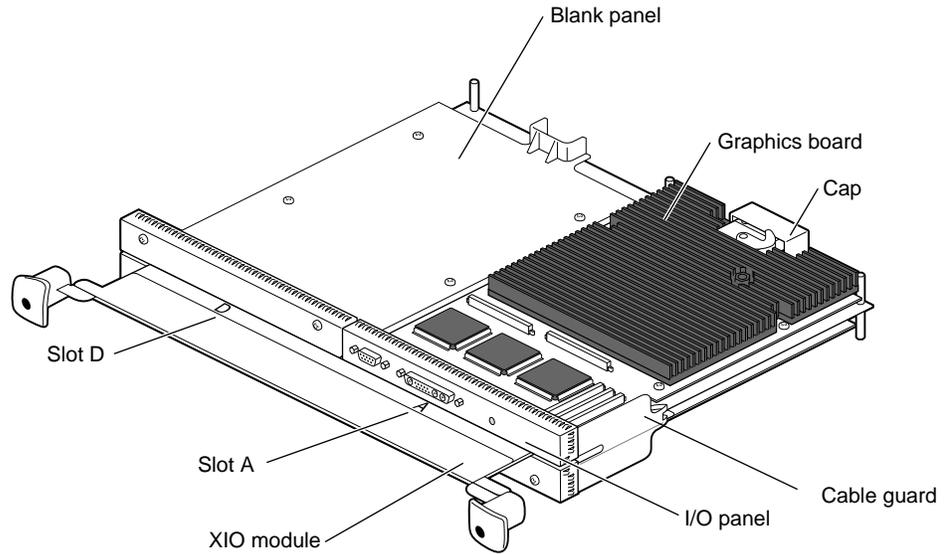

Figure 2-9 Placing the XIO Module on Its Side
The handle area protrudes when the XIO module is out of the chassis. When the handle is in this position, the identification slots for the XIO boards D and A (shown) and B and C are visible. See Figure 2-9.
6. Place a cap on the XIO graphics board compression connector. Caps are part of the workstation shipment. See Figure 2-9.